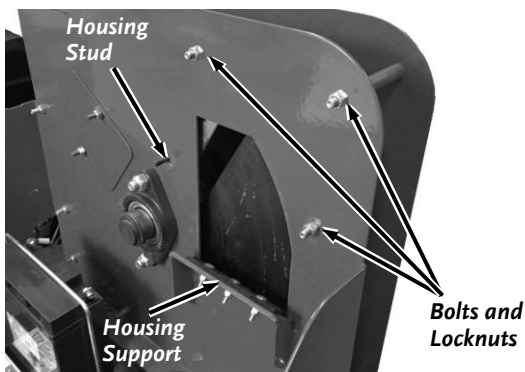

Figure 7a: Pro-475
1. Remove and discard the three Shipping Nuts from the Housing Bolts, but leave the Housing Bolts in place (**Figure 7a**).